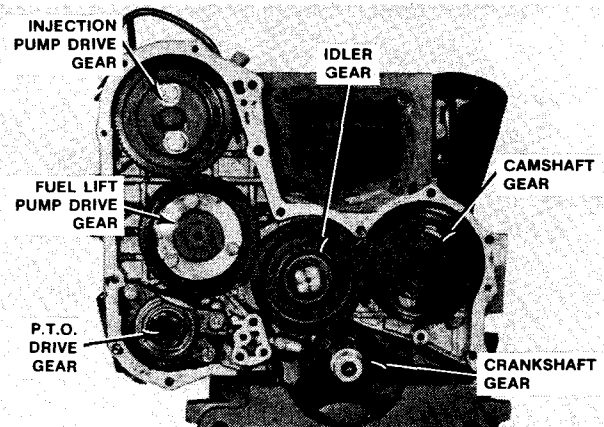

FIG. 37 Timing Gear Assembly - Cover Removed (SSD-327 and SSD-437)
15. Turn the engine upright in its workstand and remove the bolts securing the timing gear case cover to the timing gear case. Remove the gear case cover. Remove all gaskets and seals and discard. Remove the snap ring from the idler gear shaft. Remove the idler gear and the two thrust washers. Remove the P.T.O. drive gear (Fig. 37 and 38).
16. **SSD-327 and SSD-437 Engines** — Remove the snap ring retaining the fuel lift pump drive gear. Remove the drive gear and shaft (Fig. 37).
18. Invert the engine in its workstand to clear the mushroom type tappets from the cam lobes. Position the camshaft gear (Fig. 37 and 38) to permit access to the thrust plate retaining bolts. Remove the retaining bolts and pull the camshaft and gear assembly forward and out of the block.